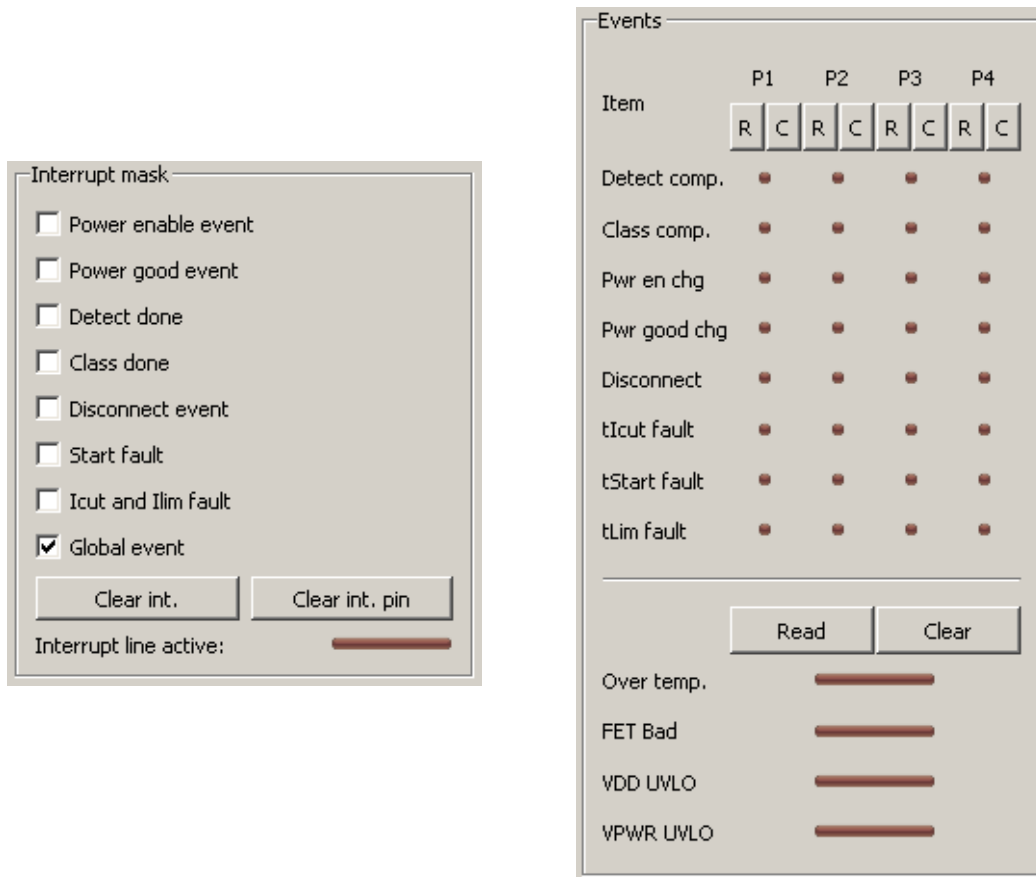

Figure 13. Interrupt Enable and Events Boxes
The Interrupt Enable box shown in Figure 13 specifies which events cause the Si3459 to generate an interrupt.
The Events box shown in Figure 13 displays the status of the interrupt line and the port events. The GUI events section indicates both global and port-specific events. Each events register consists of a pair of read-only (RO), and clear-on-read (CoR) registers with the same event bits. Reading the RO register obtains the bit values but does not affect the bits. Reading the CoR register obtains the values of the bits, and also clears the bits in both the RO and CoR registers. The indicators in the GUI Events section show the values from the RO register if the RO register is read by push of the “R” button or by polling.